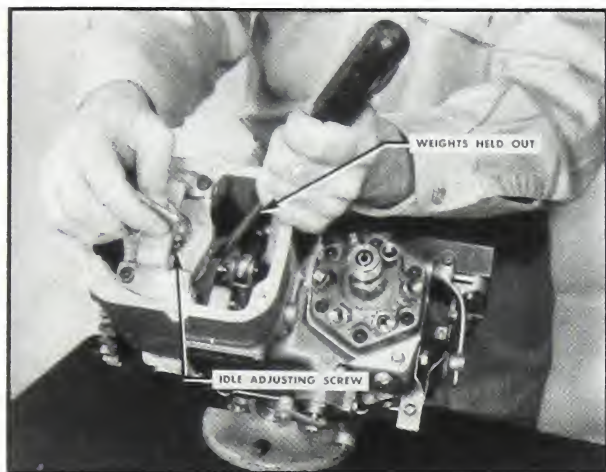
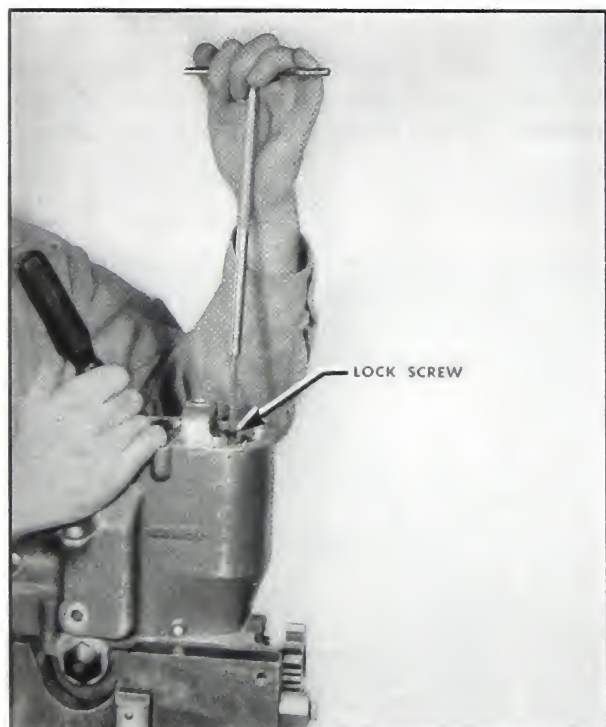

Fig. 5-359. Turn down governor idle adjusting screw drop in engine torque.
Fig. 5-360. Lock idle travel screw
2. Adjust the idle travel with the top support locking screw loose. Be sure governor lever is loose on the control shaft. The large weights are for idle speed control and the small weights are for maximum speed control. For this adjustment, choose the idle speed weight which hits its stop last. While the idle-speed weight is held out against its stop, turn the idle-travel adjusting screw until it just contacts the maximum-speed spring retainer sleeve. Fig. 5-359. Contact can be felt by feeling the screw hit while turning. Lock the idle travel locking screw. Fig. 5-360. Use extreme care in this adjustment. If idle travel is not completed at the same time the low speed weights hit their stop, there will be a noticeable